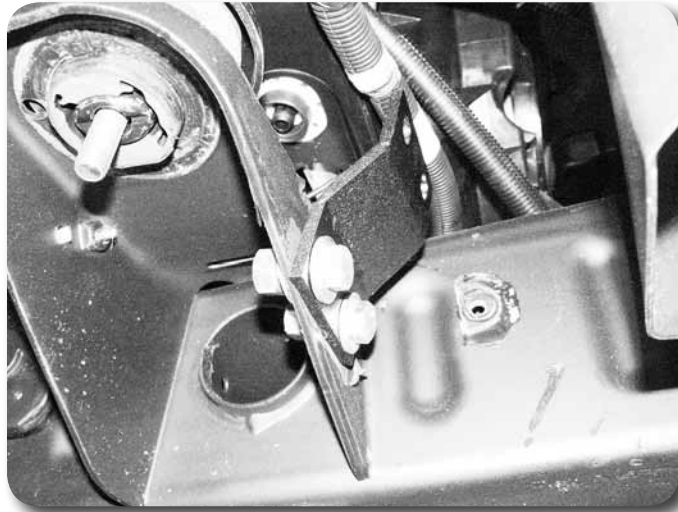

Figure 23
46. Attach the provided outer bumper support relocation brackets to the original support mount location on the frame **Figure 23**. Fasten the brackets with 7/16" x 1" bolts, nuts and 3/8" USS washers. Leave hardware loose.